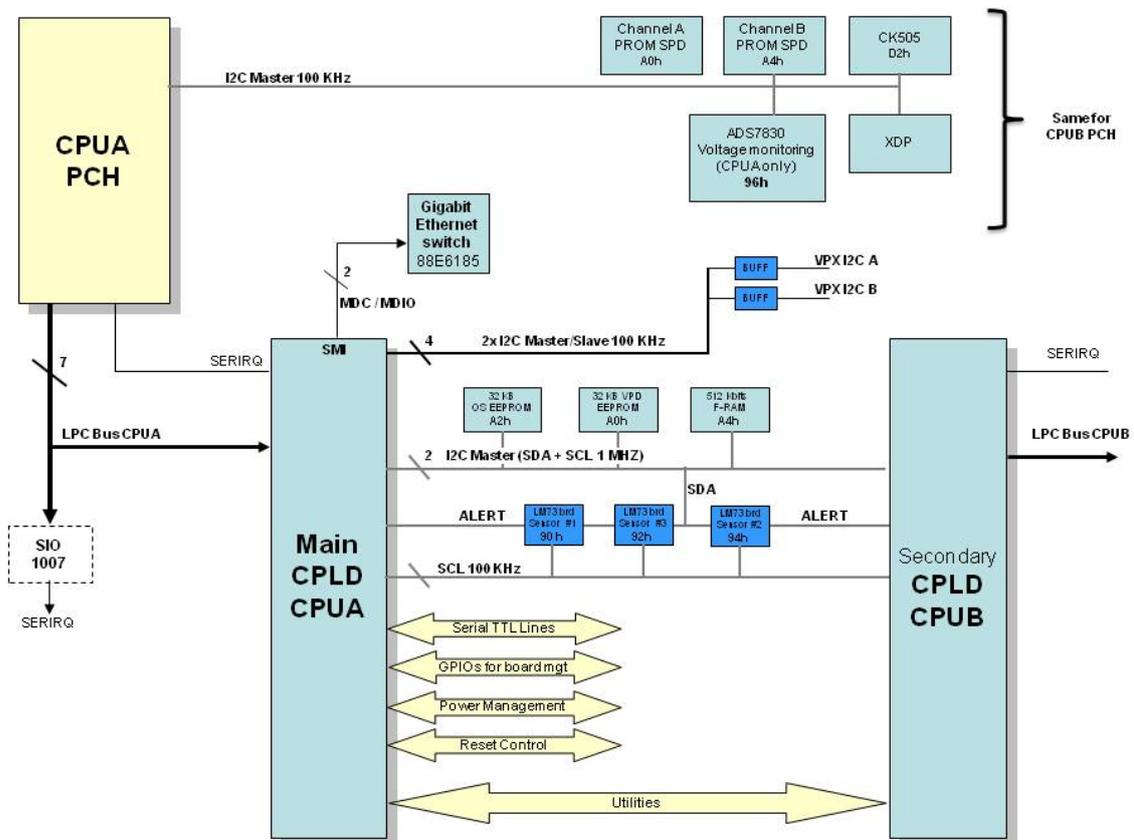

Figure 23: I2C Diagram
- The remaining i2C busses are handled by the CPLD device according Figure 23 “I2C Diagram”.